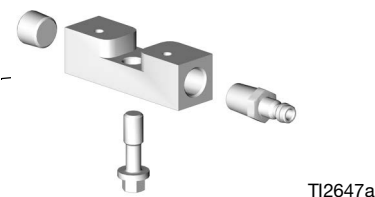

FIG. 16: Flush Manifold
4. Install flush hoses to flush manifold 15B817. See FIG. 16. Install flush manifold onto gun. Torque flush manifold bolt to 20-30 in-lb (2.26-3.39 N•m).